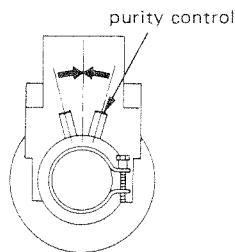
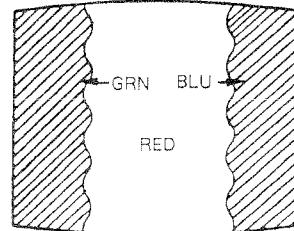

Fig. 3-1.
Fig. 3-2.
- 3. Loosen the deflection yoke mounting screw, and set the purity control to the center as shown in Figure 3-1.
- 4. Set BKG VR ② to maximum and set ④ and ⑤ to minimum.
- 5. Move the deflection yoke back, and adjust the purity control so that ④ is in the center and ⑥ and ⑦ are at the sides, evenly. (Figure 3-2.)
- 7. Substitute ⑧, then ⑨ for ⑩ in step 4 and check landing.
- 8. Rotate ⑪, ⑫ and ⑬ once each and check landing.